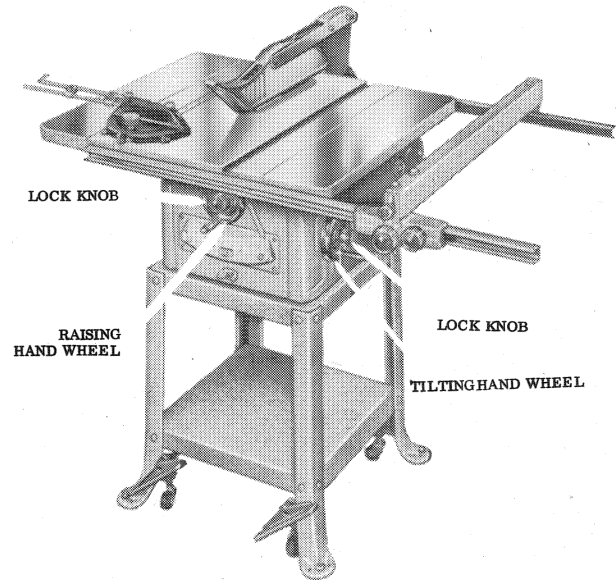

FIG. 1
2. Raise saw blade to proper height by loosening lock knob and turning Raising Handwheel. See Fig. 1 then tighten lock knob.
To raise or lower the saw blade, loosen lock knob and turn raising handwheel Fig. 1. When desired height is obtained, tighten lock knob. We suggest raising the blade above 1/8" to 1/4" above the top surface of the material being cut. The blade can be raised to a maximum of 2 3/4" and a positive-stop built right into the saw prevents you from raising the blade beyond this point and damaging the blade and table insert.
To tilt the saw blade, loosen lock knob and turn tilting handwheel. When desired angle is obtained, tighten lock knob, Fig. 1.